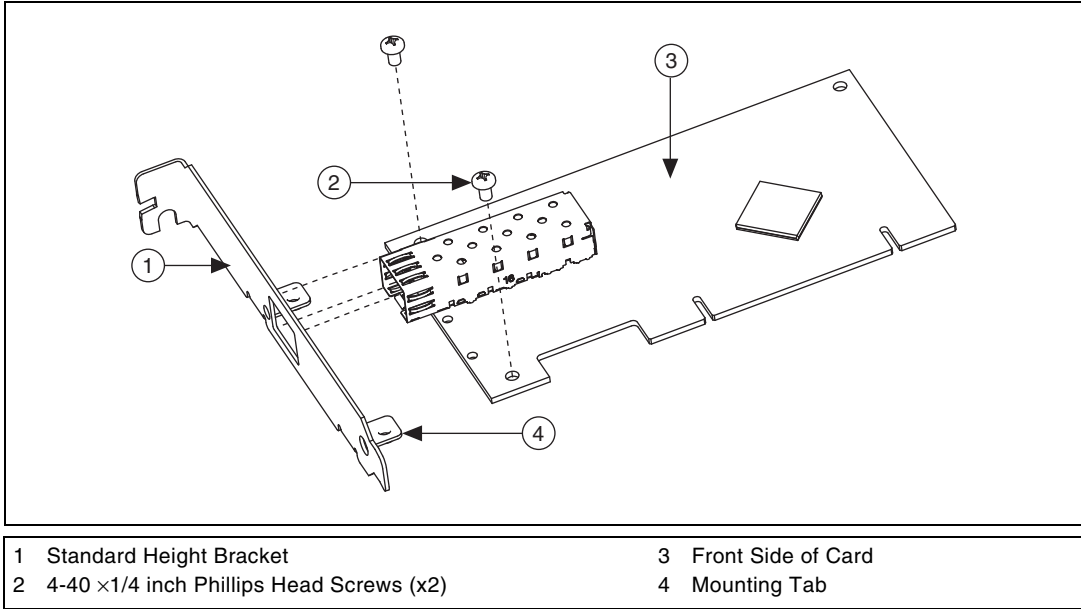

Figure D-2. Removing Bracket
4. Remove the two 4-40 ×1/4 inch Phillips head screws that attach the standard height bracket to the card as shown in Figure D-2. Set the screws aside to re-use when installing the low-profile bracket.
5. Remove the standard height bracket as shown in Figure D-2.